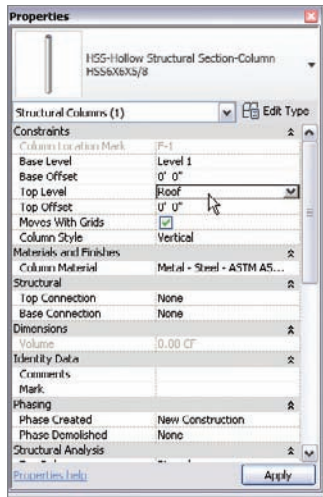

FIGURE 8.26 Setting the column's Top Level to extend to the roof
17. In the Properties dialog, make sure that the top level is set to Up To: Roof, as shown in Figure 8.26.